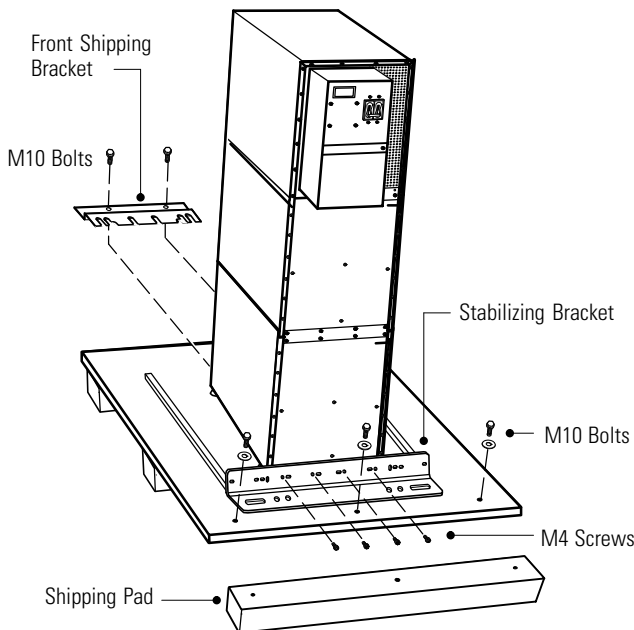

Figure 3. Removing the Brackets and Shipping Pad
2. Remove the four M4 screws securing the stabilizing bracket to the cabinet rear panel and remove the bracket (see Figure 3). Retain the hardware for later use.
4. Remove the three M10 bolts securing the rear shipping pad to the pallet and remove the shipping pad (see Figure 3).